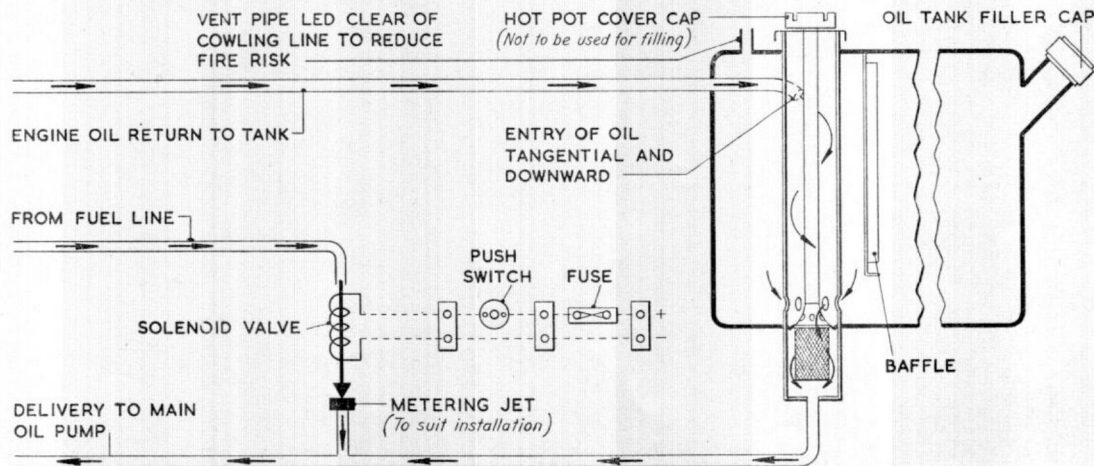

Fig. 1. Typical layout of oil dilution system
2. A typical layout of the oil dilution system is shown in fig. 1. The equipment consists of a pipeline from the delivery side of the fuel pump or reducing valve, through a solenoid valve, immediately after the start.